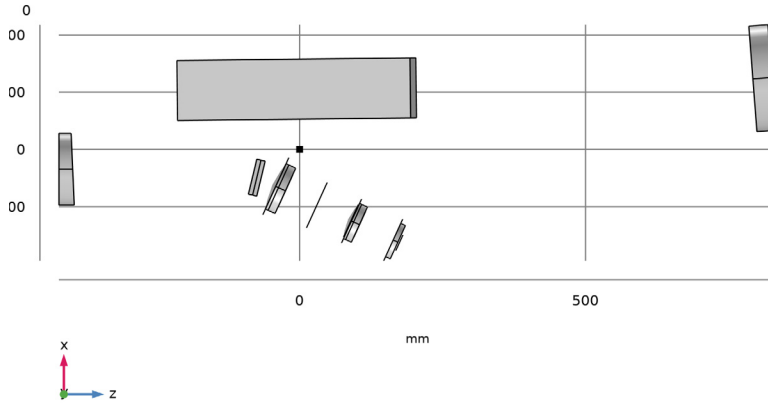

Figure 2: The White Pupil Échelle Spectrograph geometry sequence.
The full geometry sequence (including the scaled Petzval Lens) can be seen in Figure 2. As noted above, the spectrograph geometry is fully parameterized, and hence the model can be adjusted using the globally defined parameters.
- 9 Click the  **Zoom Extents** button in the **Graphics** toolbar. Orient the view to place the z-axis (optical axis) horizontal and the y-axis vertical. Compare the resulting geometry to Figure 2.